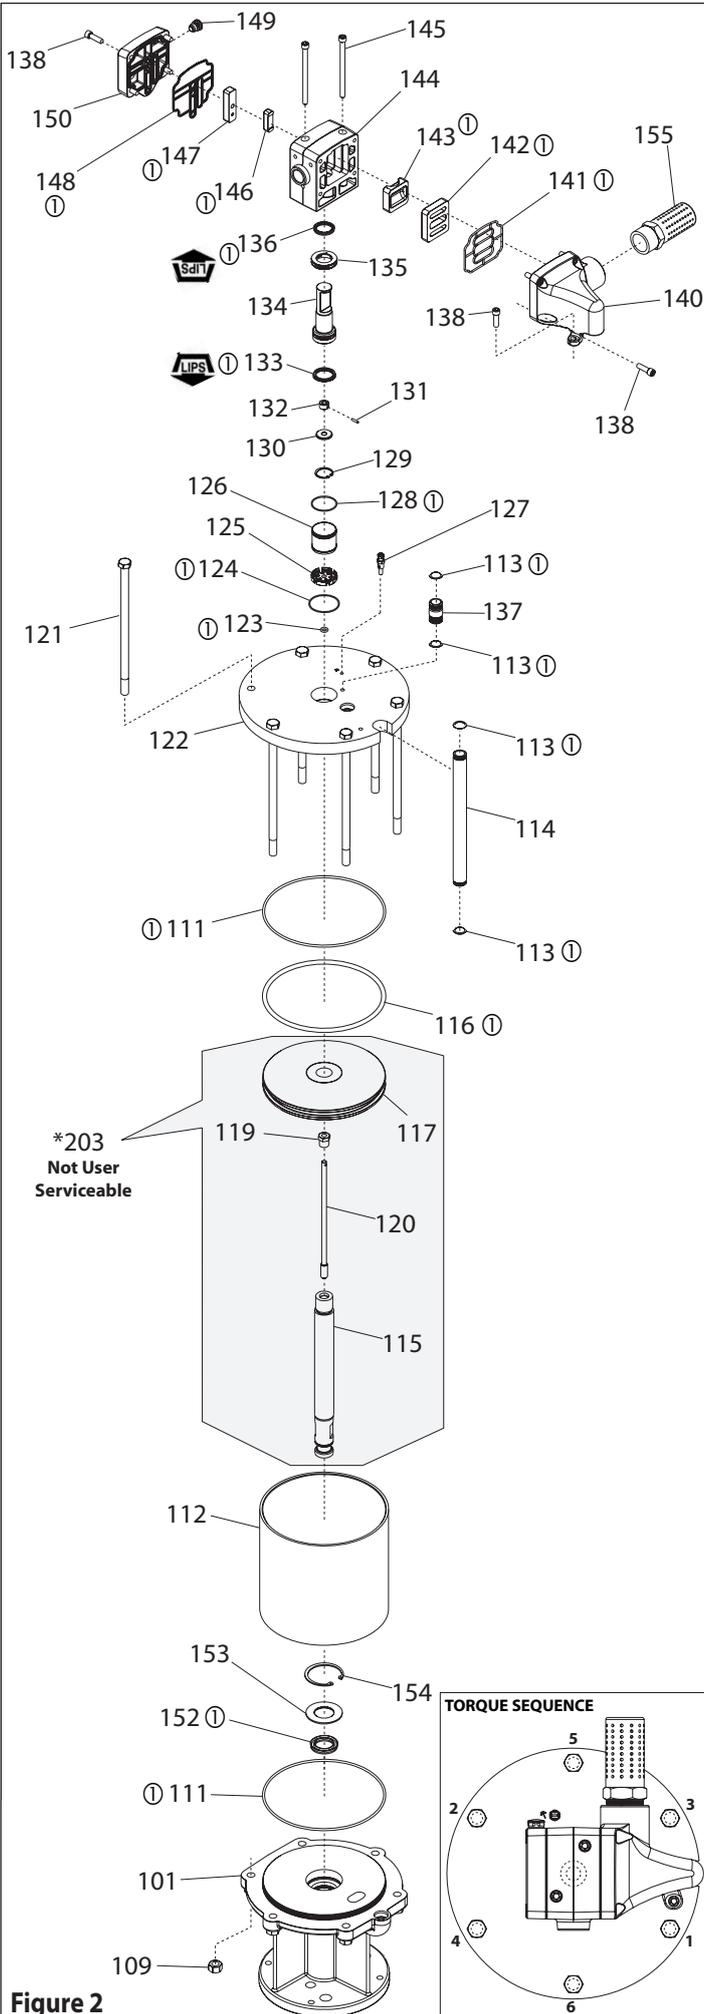

Figure 2
- Install (152) U-cup, (153) washer, and (154) snap ring into the (101) base assembly.
- Install the (111) O-ring in the groove on the (101) base assembly.
- Install the (116) O-ring in the groove on the (117) piston.
- Push (115) piston rod thru the (101) base assembly, being careful not to damage the lips of the (152) U-cup or the (102) O-ring.
- Lubricate the inside diameter of the (112) air cylinder and slide it down over the (117) piston/assembly and onto the (101) air motor base assembly (see figure 2 on page 2).
- Align notch in (122) head plate with the port in (101) base assembly and press the (122) head plate down until it is seated against the (112) air cylinder. The (120) trip rod assembly must lead thru the center of the (122) head plate.